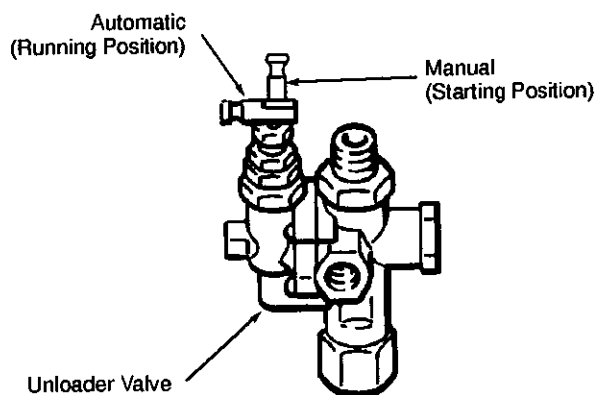

Figure 4. Unloader Valve
4. Move the unloader lever to the manual (vertical) position. See Figure 4.